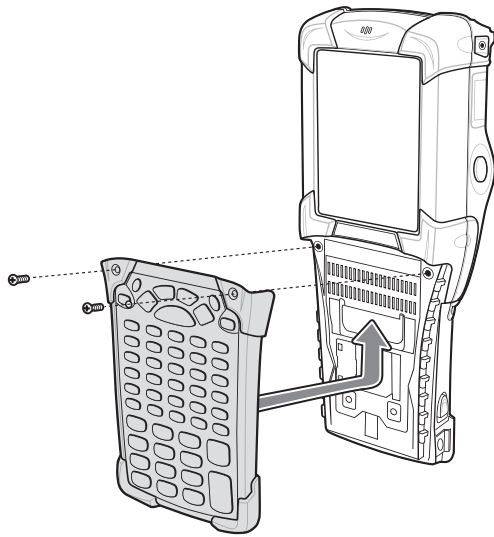

Figure 2-2 *Installing the Keypad*
6. Replace the keypad and re-attach using the two screws (see Figure 2-2 on page 2-4).